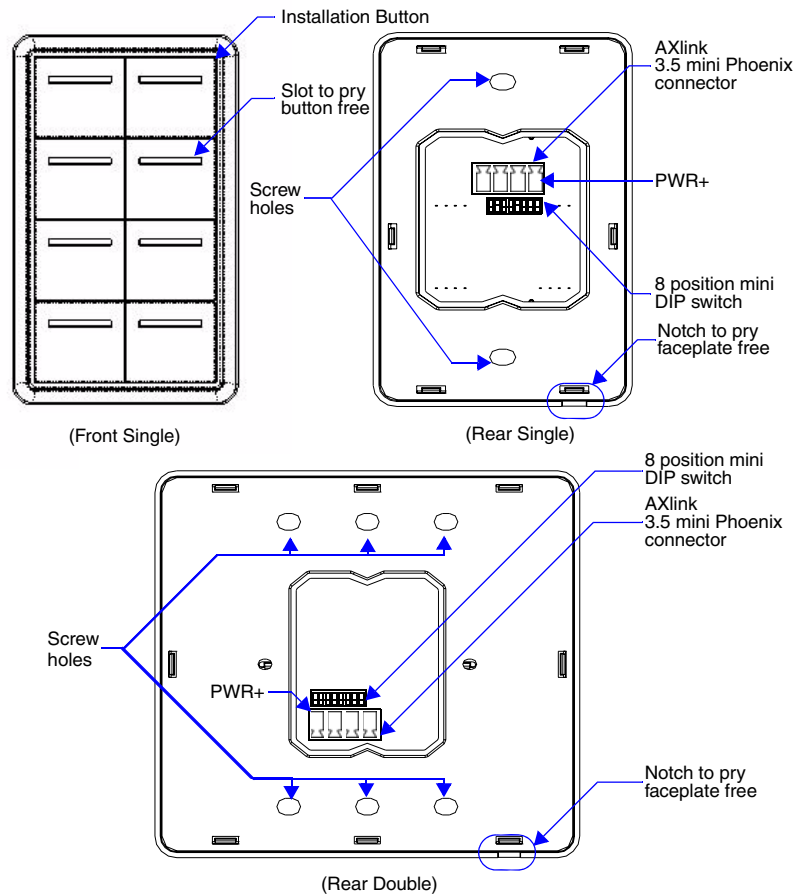

FIG. 2 Mio Modero Front and Rear Components
4. Connect the AXlink power supply. The connector passes through the center of the mounting frame and connects to the board. The connection is illustrated in FIG. 2.